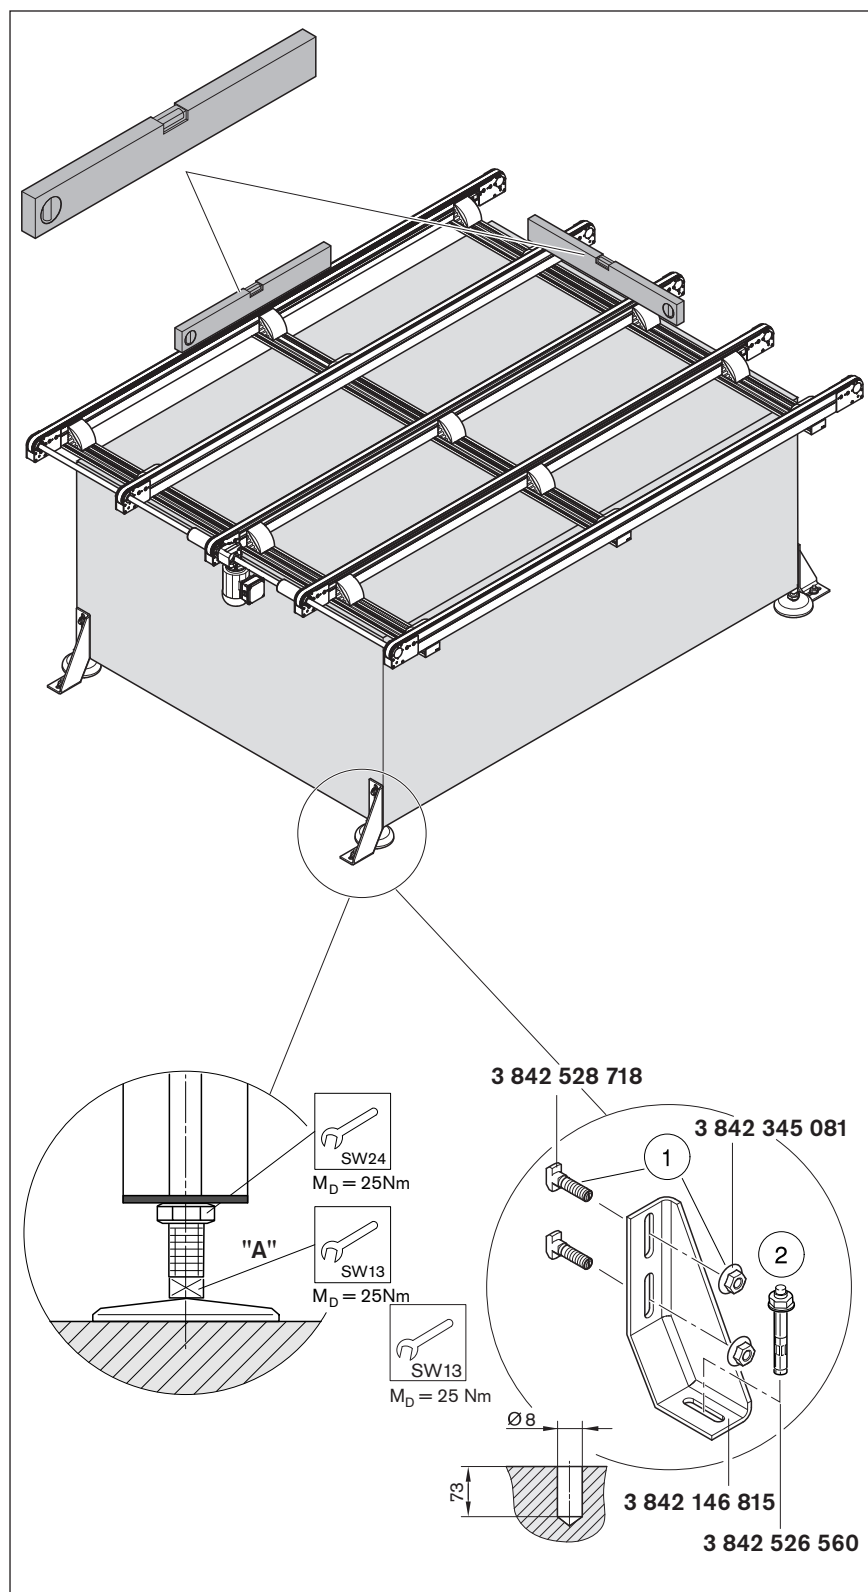

Fig. 9
- ▶ Connection cable option: **3 842 409 645** (M20x1.5), see “Fig. 9” on page 22. Pay attention to the ballast fuse!